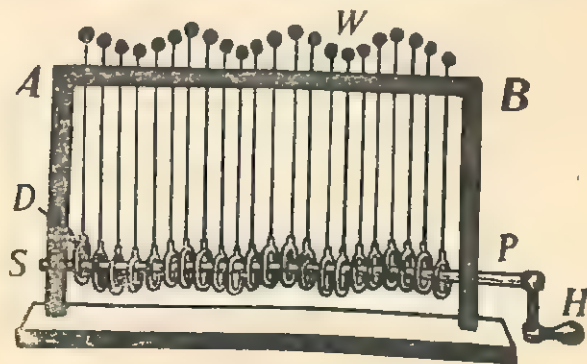

Fig. 5.5. Transverse wave model.
**Apparatus.** A "transverse wave model" which is very popular and commonly available from scientific dealers is shown in Fig. 5.5.
**Demonstration.** Rotate the handle continuously and observe the motion of the balls at the tips of the rods. You will observe that *each ball undergoes a periodic up and down motion and a wave form travels from one end to the other as shown in Fig. 5.5. The direction of motion of each ball is perpendicular or transverse to the direction of propagation of the wave.* Hence, such a wave is known as a *transverse wave*.